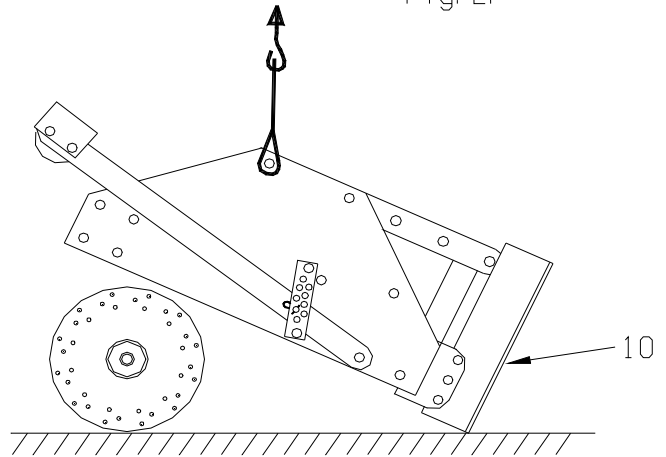

Fig. 3.
6. Slowly lift the machine again, see Fig.3., till the rotor can be rolled away.